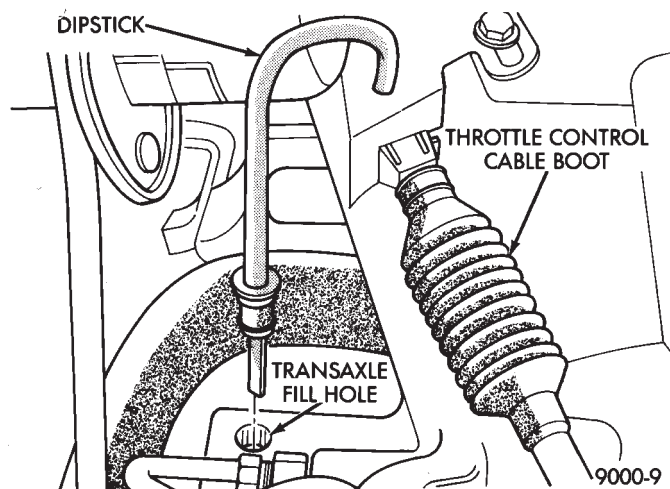

Fig. 2 Automatic Transaxle Fill Hole
- (1) Position the vehicle on a level surface.
- (2) Start engine and allow to idle in PARK for at least 60 seconds. The warmer the transaxle fluid, the more accurate the reading.
- (3) While sitting in driver seat, apply brakes and place gear selector in each position. Return gear selector to park.
- (4) Raise hood and remove transaxle fluid level indicator (dipstick) and wipe clean with a suitable cloth.
- (5) Install dipstick and verify it is seated in fill hole or tube (Fig. 2 or 3).